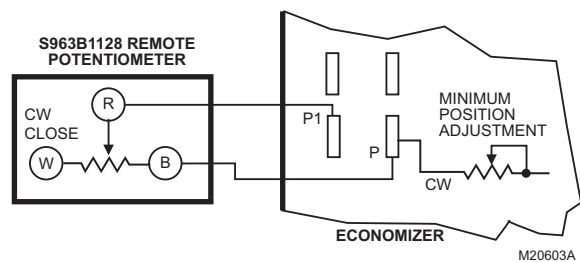

Fig. 26. S963B1128 Remote Potentiometer used with logic module for remote damper control.
4. Ensure that either the factory-installed jumper is in place across terminals P and P1 or, if remote damper position is required, that it is wired according to Fig. 26 and turned fully clockwise.